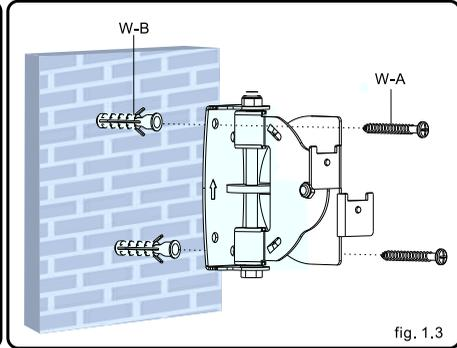

fig. 1.3
- Pre-drill these holes with a 8mm masonry bit to at least 50mm in depth. Insert a Concrete Anchor (W-B) into each of these holes. Attach the Wall Plate to the wall using two wood screws (W-A) as shown in fig.1.3.